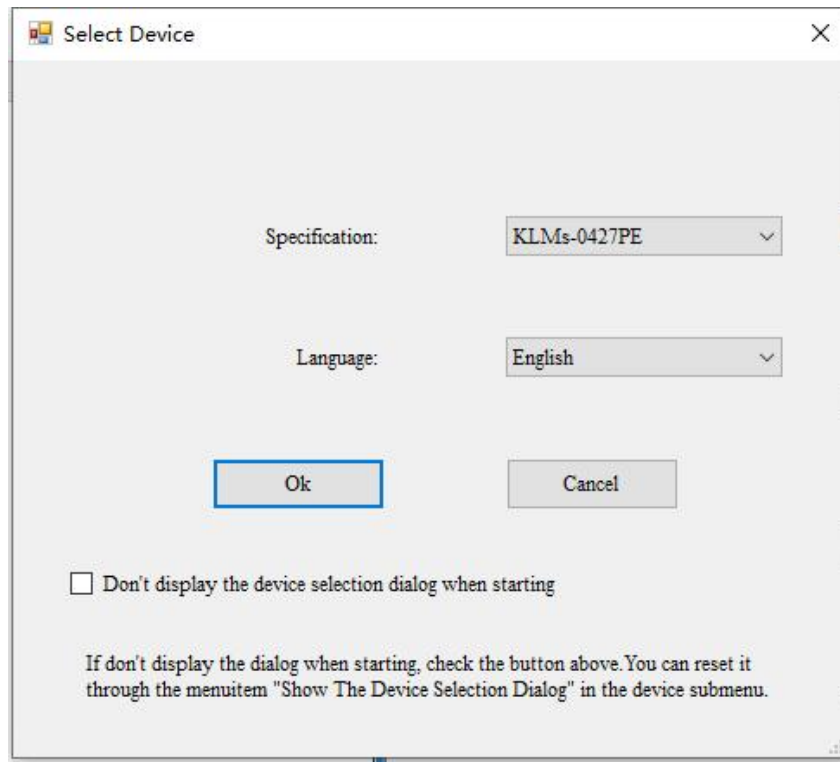
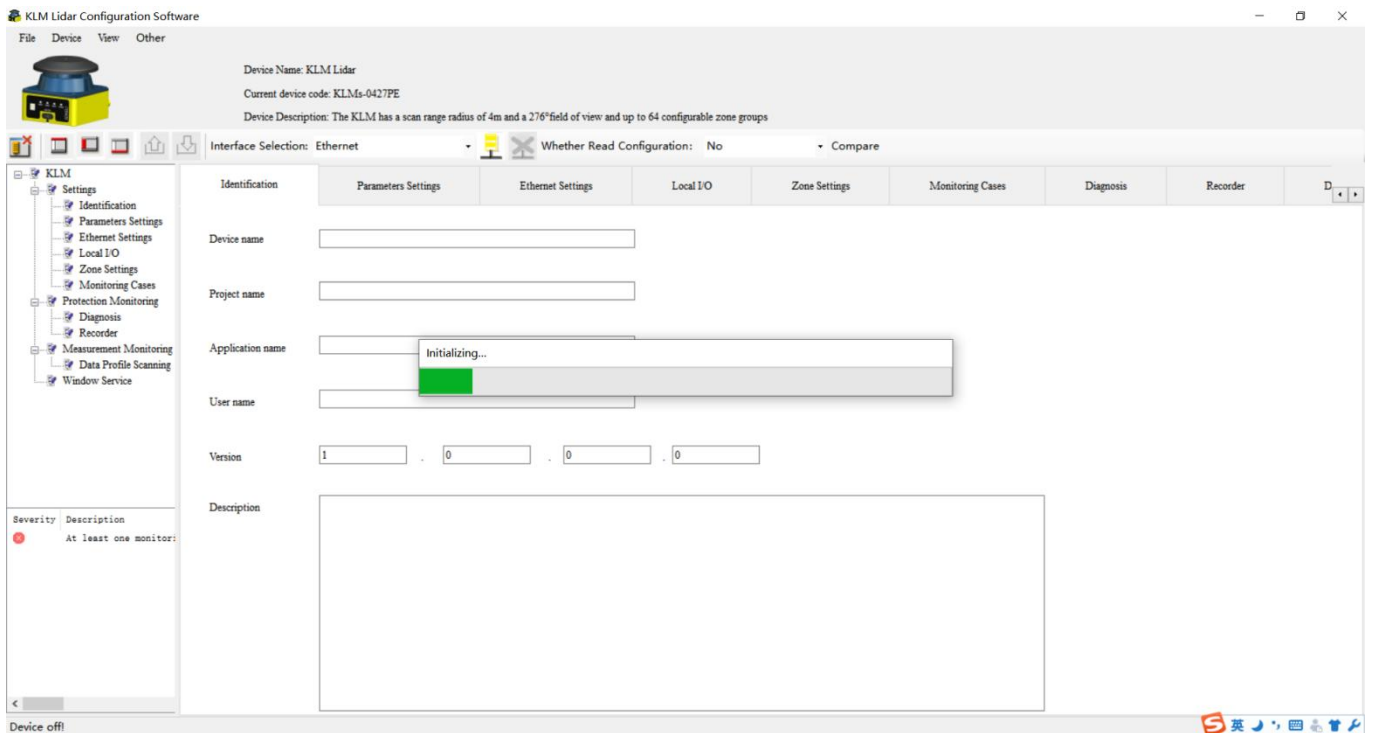

Fig.1.3.1 Device selection window
Figure1.3.2 Main interface of KLM configuration software
d) KLM configuration software will start and pop up the dialog box as shown in Fig.1.3.1. You need to select the model of the device in the drop-down menu, and then click “OK” button. After that, enter the main interface (Fig.1.3.2).After the initialization is complete, the software startup is complete.